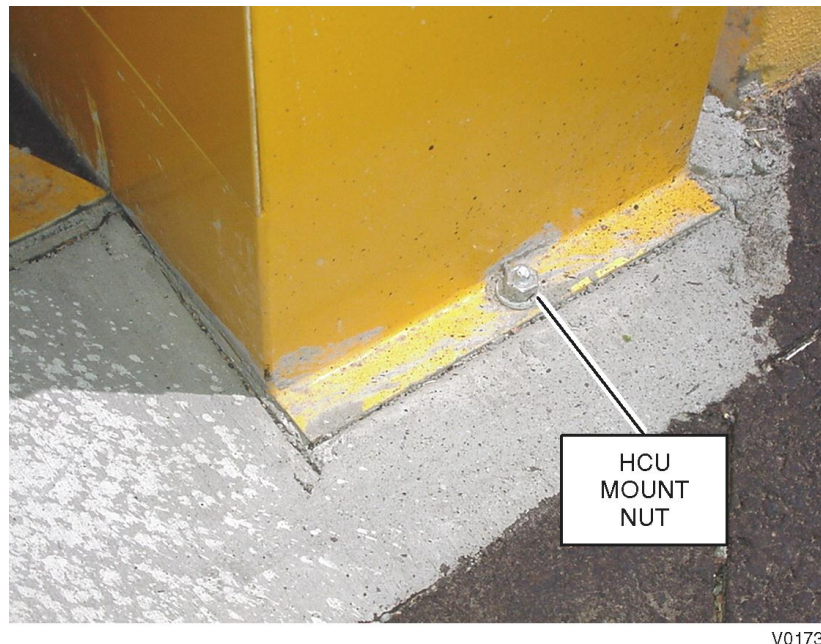

Figure 3-6. HCU Mount Nut Location
14. Mark the location of the Hydraulic Control Unit mount holes on the concrete (Figure 3-6), remove the unit and install the 1/2"x 2 3/4" wedge anchor bolts. Refer to Appendix A for anchor bolt specifications and installation.